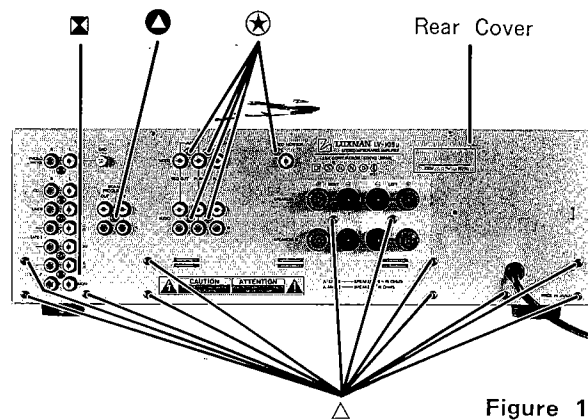

Figure 10
- (1) Remove six screws marked "■" as shown in Figures 10 and 11.
- (1) Remove twelve screws marked "△" as shown in Figure 10.
- (2) Disconnect all wires from the AC Outlet, AV Monitor and ADP P. C. Boards.
- (3) The rear cover with AV Monitor and ADP P. C. Boards can be removed completely.
- (1) Remove five screws marked "★" as shown in Figure 10.
- (1) Remove one screw marked "○" as shown in Figure 10.